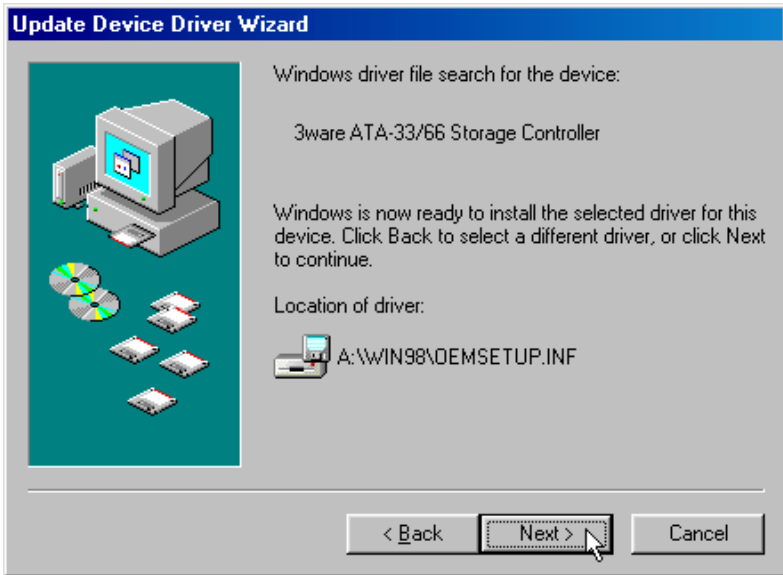

Figure 31. Final driver installation screen
- 5 The final update driver screen should appear (Figure 31), followed by a progress bar which appears briefly, then by a **System Settings Change** dialog.